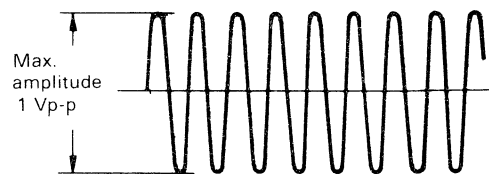

Figure 16. Waveform
3. Adjust LK01 for the maximum amplitude of waveform (See Figure 16) while holding down VOLUME DOWN Button on the hand unit.
4. Rotate the core of LK01 for the maximum amplitude of waveform on the scope, clockwise from the fully counterclockwise position. (See Figure 16.)